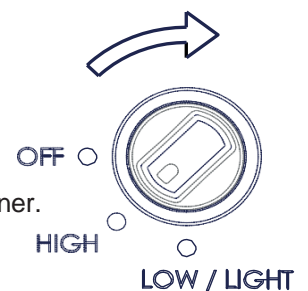

Figure 2
- Turn gas control to high position (*Refer to Figure 2*).